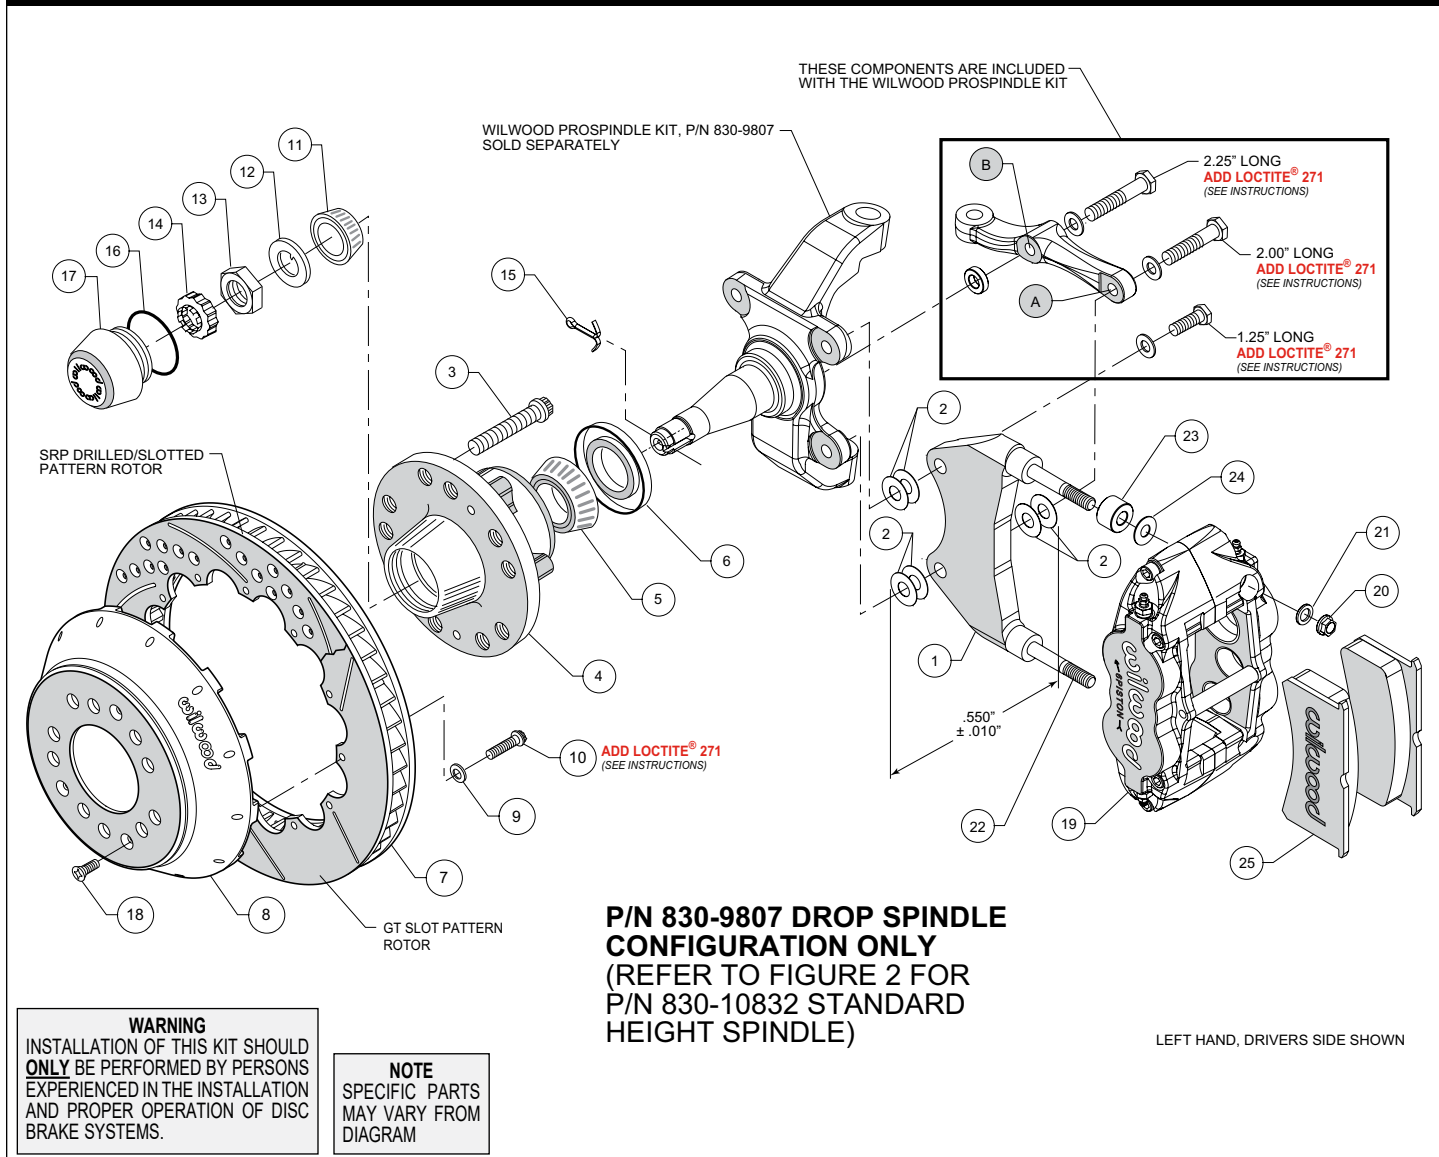
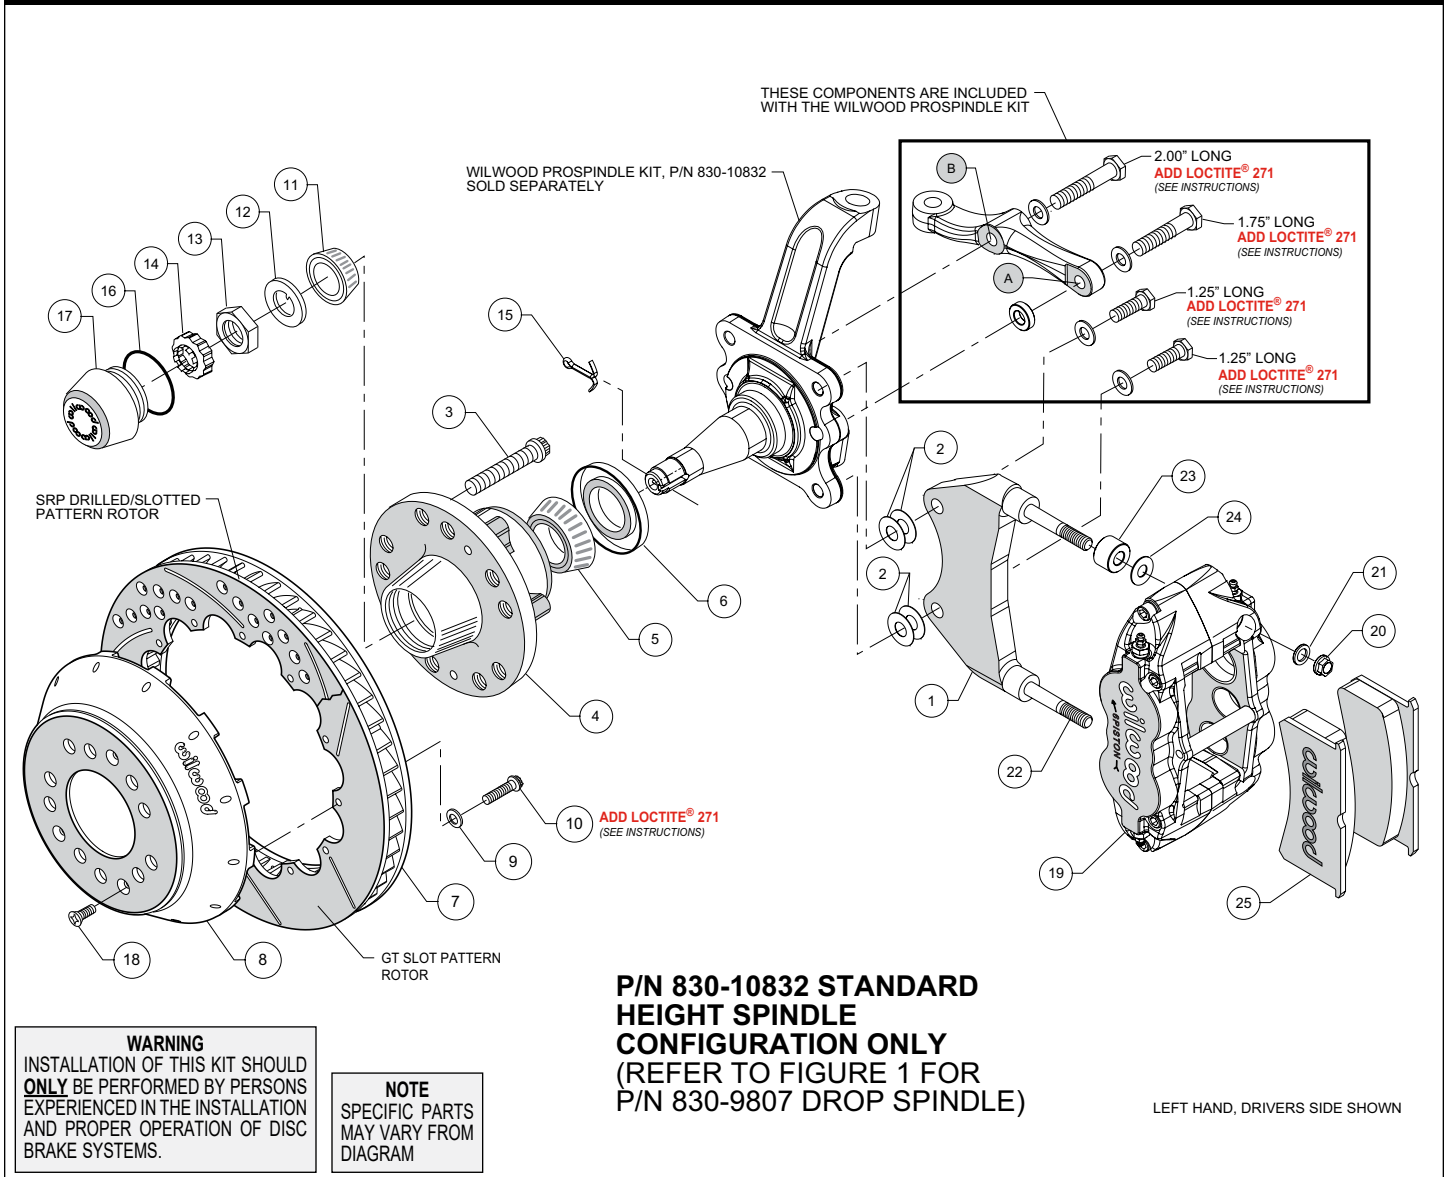
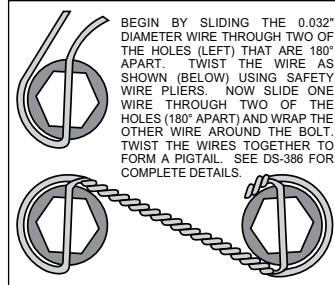

Figure 1. Installation Configuration For Drop Spindle, P/N 830-9807
Figure 2. Installation Configuration For Standard Height Spindle, P/N 830-10832
Figure 4. Safety Wire Diagram
**NOTE:** Numbers in parenthesis refer to the parts list and Figure 1 on the preceding pages.
**•NOTE:** Each Wilwood ProSpindle kit includes bolts, washers, and a spacer to mount the steering arm and caliper bracket. The various bolts are identified by length in the following instructions and in Figures 1 and 2.
**For 2" Drop ProSpindle (P/N 830-9807):** The caliper bracket assembly (1) should initially be installed with clean, dry threads on the mounting bolts.
- Orient the bracket as shown in Figure 1 and Photo 1. Install at top spindle hole using 1.25" long bolt and .06" thick washer (from ProSpindle kit), and two .016" thick shims (2) between the bracket and spindle, Figure 1.
- Orient the steering arm, and identify the hole marked 'A', as shown in Figure 1. Install at bottom spindle hole using 2.00" long bolt and .06" thick washer (from ProSpindle kit), two .016" thick shims (2) between the bracket and steering arm, and another two .016" thick shims (2) between the bracket and spindle, Figure 1. The bracket is located between the steering arm and spindle. **NOTE:** The bracket and shim washers must add up to a total thickness of .550" ± .010", Figure 1.
- Finish attaching the steering arm through the hole marked 'B', as shown in Figure 1. Install using 2.25" long bolt, .06" thick washer, and .25" thick spacer (all from ProSpindle kit), Figure 1.
**For Standard Height ProSpindle (P/N 830-10832):** The caliper bracket assembly (1) should initially be installed with clean, dry threads on the mounting bolts.
- Orient the bracket as shown in Figure 2 and Photo 2. Install using 1.25" long bolts and .06" thick washers (from ProSpindle kit), and two .016" thick shims (2) on each bolt between the bracket and spindle, Figure 2. Temporarily tighten mounting bolts. **NOTE:** The bracket must fit squarely against the mounting points on the spindle. Inspect for interference from casting irregularities, machining ridges, burrs, etc. Later, after the caliper alignment has been checked, the mount bolts will be secured using red Loctite® 271.
- Orient the steering arm, and identify the hole marked 'A', as shown in Figure 2. Install using 1.75" long bolt, .06" thick washer, and .30" thick spacer (all from ProSpindle kit), Figure 2.
- Finish attaching the steering arm through the hole marked 'B', as shown in Figure 2. Install using 2.00" long bolt and .06" thick washer (from ProSpindle kit), Figure 2.
- Orient the rotor (7) and the hat (8) as shown in Figures 1 or 2, and Photo 6. Attach rotor to hat using bolts (10) and washers (9). Apply red *Loctite*® 271 to the bolt threads and torque to 155 in-lb using a criss-cross pattern. For an added measure of security, the bolts may be safety wired using standard 0.032 inch diameter stainless steel safety wire as shown in Figure 4. Refer to Wilwood's data sheet DS-386 (available at [www.wilwood.com/Pdf/DataSheets/ds386.pdf](http://www.wilwood.com/Pdf/DataSheets/ds386.pdf)) for complete safety wire installation instructions.
- **NOTE:** This kit contains distinct right and left hand calipers that must be mounted in a specific direction, as described below. Initially place one .035" thick shim (24), and spacer (23) on each stud (22) as shown in Figure 1 or 2, and Photo 7. Mount the caliper (19) onto the bracket (1) using lock nuts (20) and washers (21), Figure 1 or 2. Ensure that the caliper is mounted so that the largest pistons are at the rotor exit end of the caliper, in relation to the direction of rotor rotation. Temporarily tighten the lock nuts and view the rotor through the top opening of the caliper. The rotor should be centered in the caliper, Photo 8. If not, proceed as follows:
- Adjust by adding or subtracting shims (2) between the bracket and the spindle. Always use the same amount of shims on each of the two bolts between bracket and spindle.
- For the lower bracket mount bolt, if a shim was added between the bracket and spindle, then a shim must be removed between the steering arm and bracket, such that the total thickness of bracket and shims remain equal to  $.550 \pm .010$ ", Figure 1.